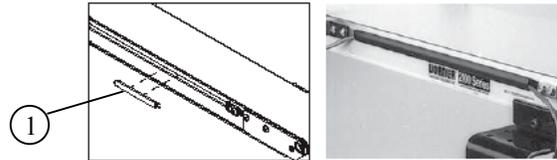

Figure 7
1. To contain a long run of wiring cable in the conveyor t-slot, use several short lengths of t-slot strip closures (Figure 7, item 1).